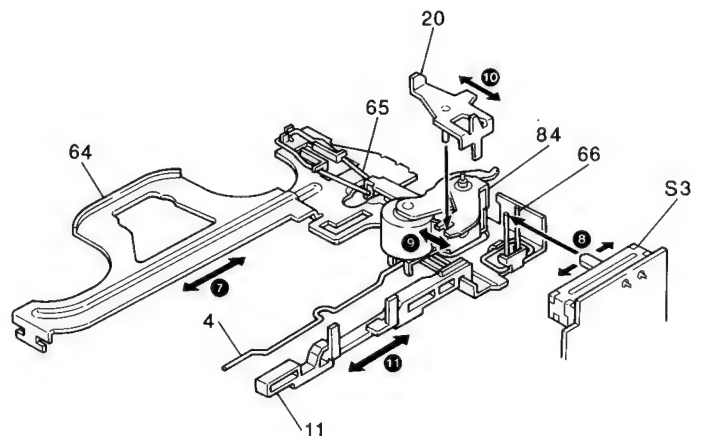

Fig. 8
4. The main plate (64) slides in direction of arrow ( **7** ) in Fig.8 causing the following part movements;
- a) Head switch (10) movement is changed per arrow ( **8** ).
- b) Force transferred from pinch roller spring (4) changes the relation of pinch roller and capstan to each other, per arrow ( **9** ).
- c) Seesaw plate (20) is moved by the main plate and seesaw plate spring (65), and moves seesaw working plate (84). All FF/REW operation is performed by this seesaw plate movement. See arrow ( **10** ).